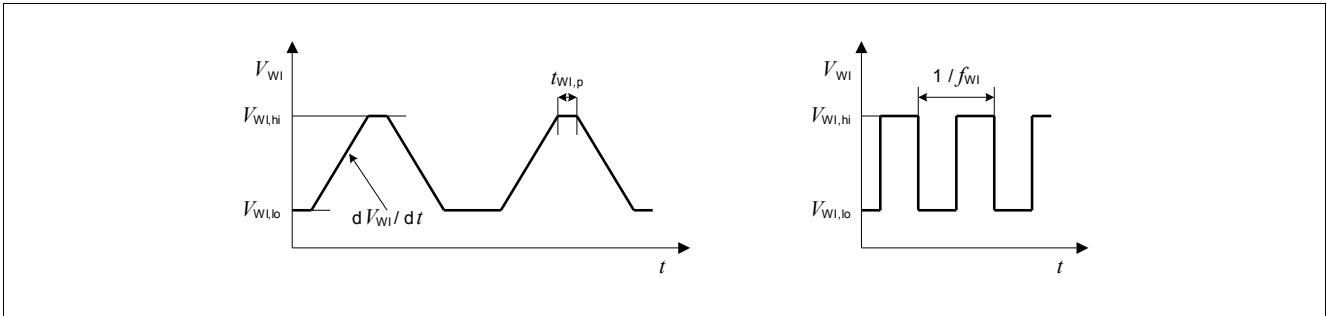

Figure 9 Test Pulses Watchdog Input WI
The watchdog is triggered by an positive edge at the watchdog input “WI”. The signal is filtered by a bandpass filter and therefore its amplitude and slope has to comply with the specification Table “Watchdog Input” on Page 25 to Table “Watchdog Input Signal Slew Rate” on Page 25. For details on the test pulse applied, see Figure 9.
- 3) For details on the test pulse applied, see Figure 9.